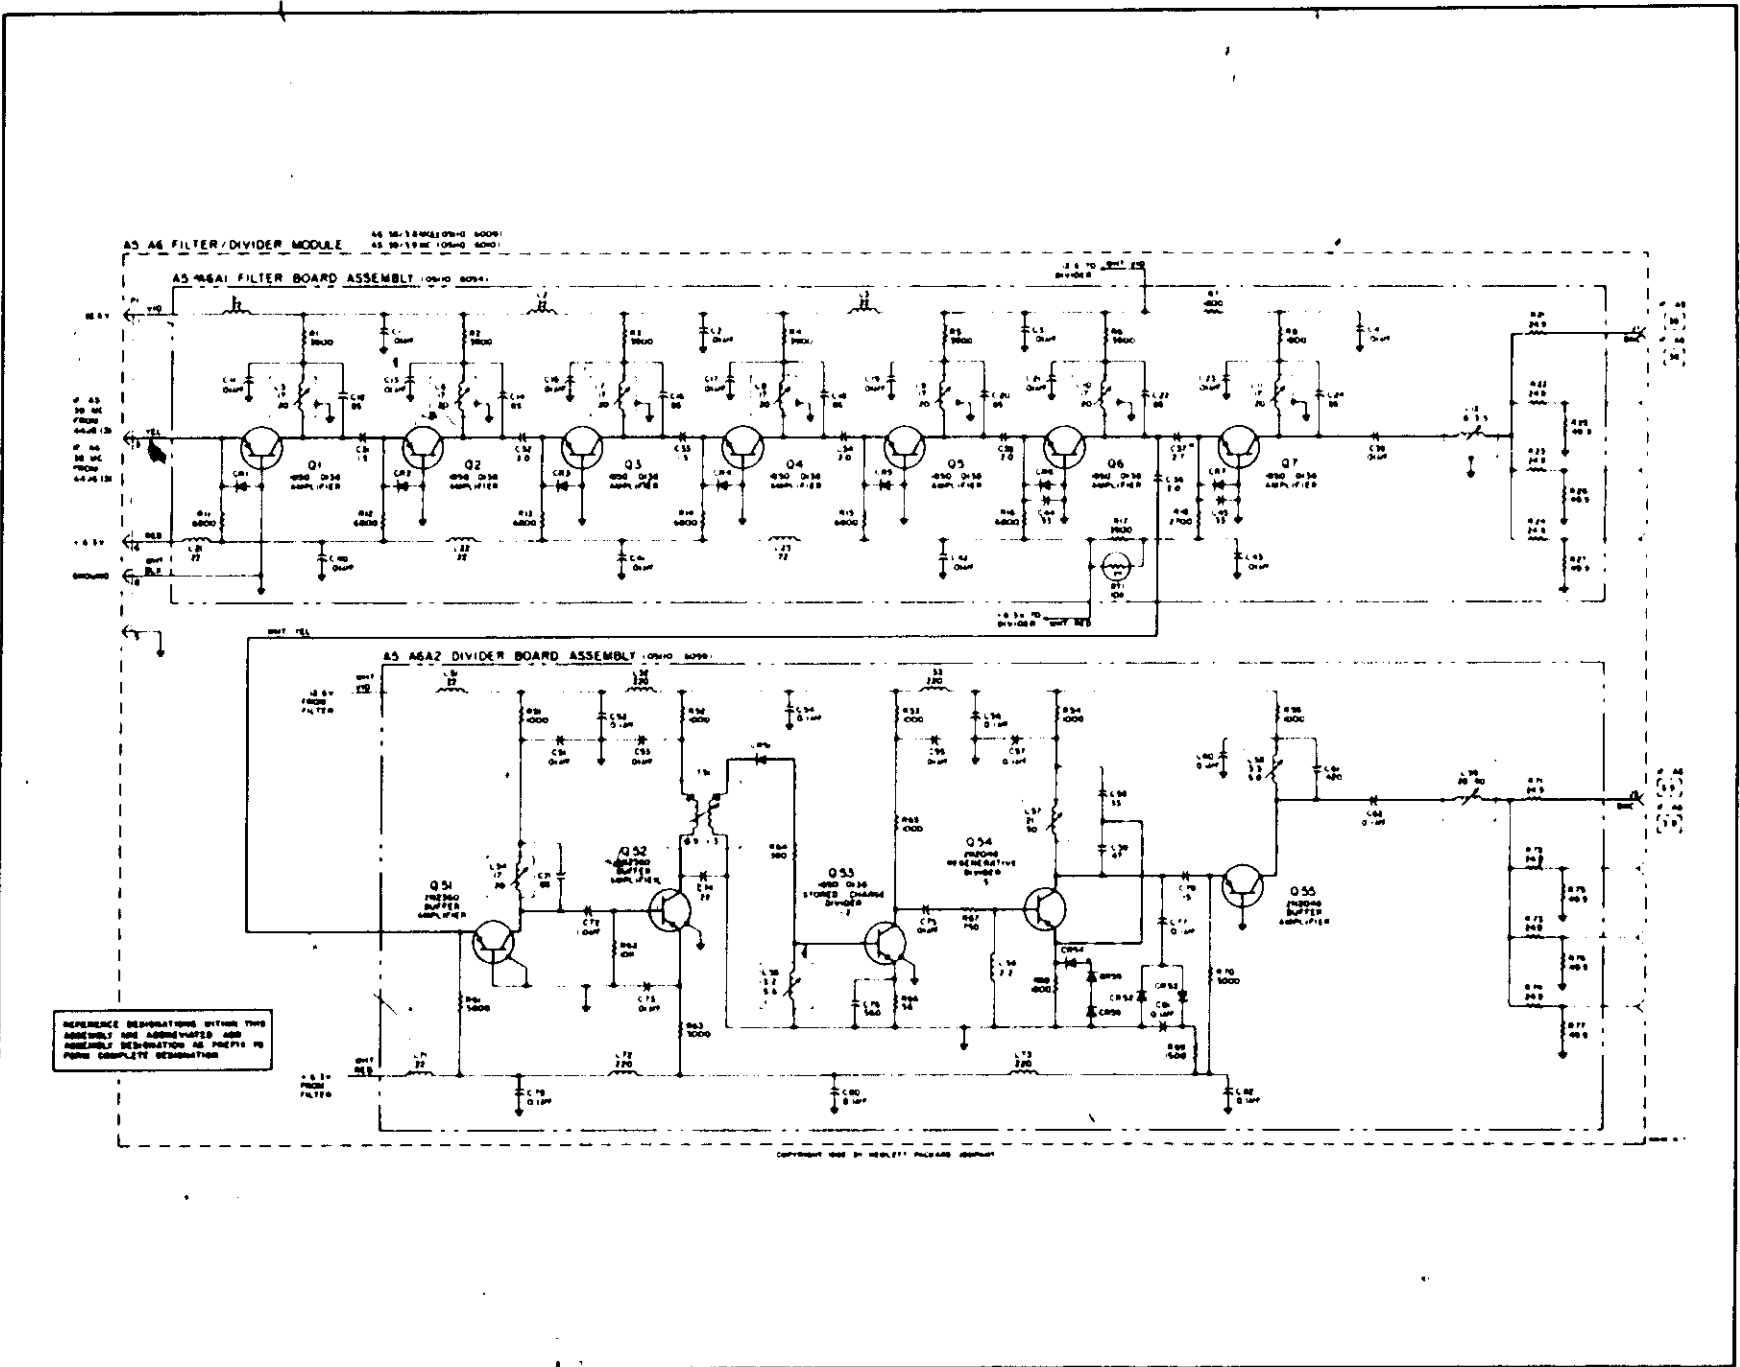

Figure 8-5. AS-A6 Filter/Dividers
3. Different Filter/Divider Modules A5 through A14 were installed. These modules performed the same electrical function. See schematic diagrams, Figures 8-5 through 8-10 and parts lists, Tables 8-3 through 8-8.